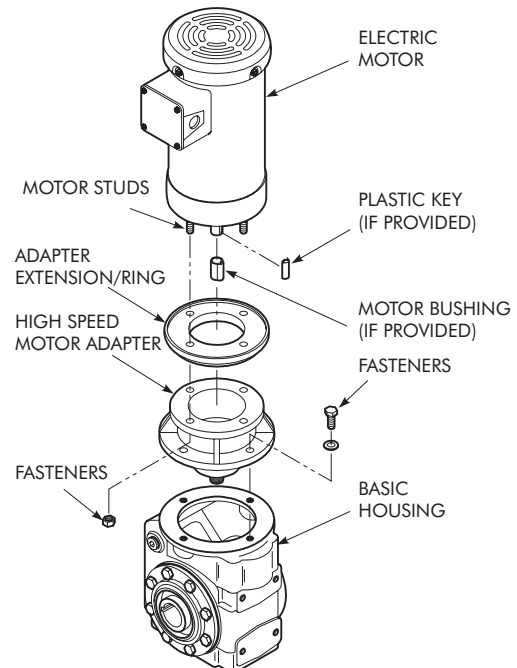

Figure 2
PROCEDURE G & H — Figure 2
1. Place basic housing on a workbench so that high speed end is facing up as illustrated in Figure 2. If necessary, block housing so that it is stable and level.
PROCEDURE G & R — Figure 2